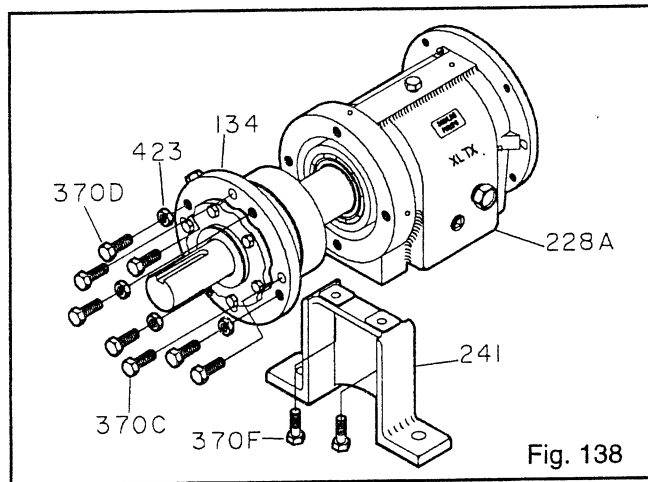

Fig. 138
11. Coat outside of bearing housing (134) with oil.
13. Install shaft assembly into frame (228A). Check shaft for free turning (Fig. 138).
14. Install clamping bolts (370C) into bearing housing (134). Hand tighten.
15. Install jacking bolts (370D) with locking nuts (423) into housing (134). Hand tighten.
16. Attach bearing frame foot (241) with bolts (370F). Hand tighten.